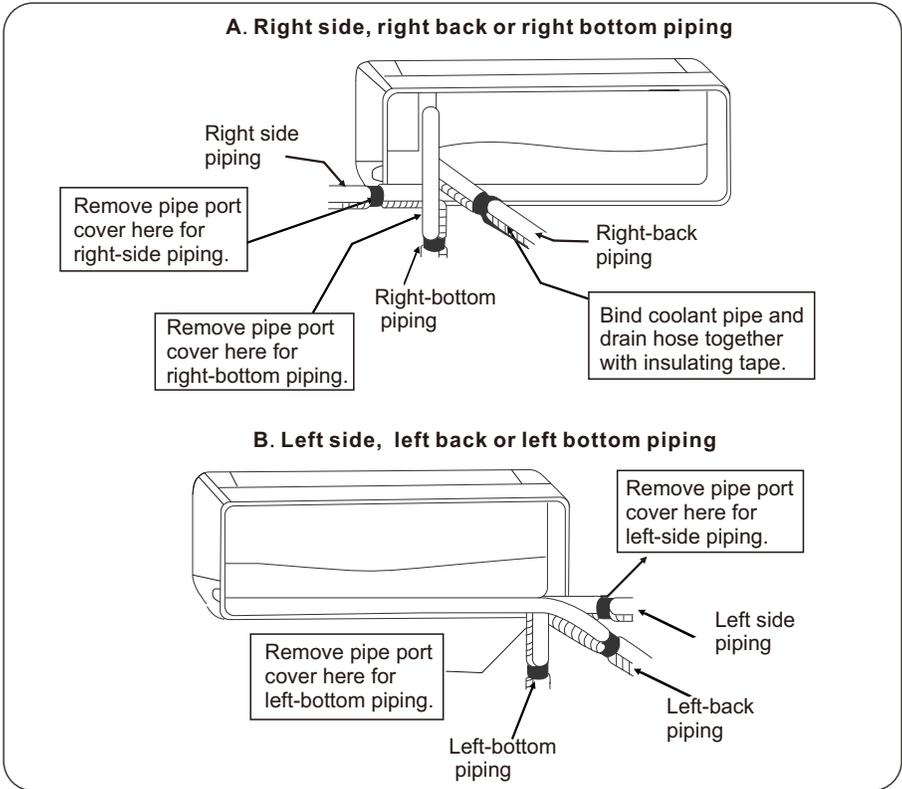
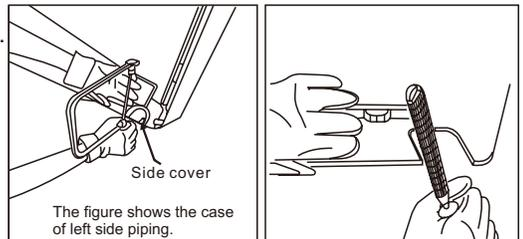

Fig 1
Fig 2
3. Wrap the inter-unit wire, refrigerant pipes, and drain hose together with insulation tape. (see Fig 1)
4. Bottom or side piping. (see Fig 2)
- Cut the pipe as straight as possible. (See Fig 1.) Make sure to use a deburring tool to remove any burrs. Hold the pipe with opening facing down to prevent metal chips from entering the pipe. (See Fig2.)